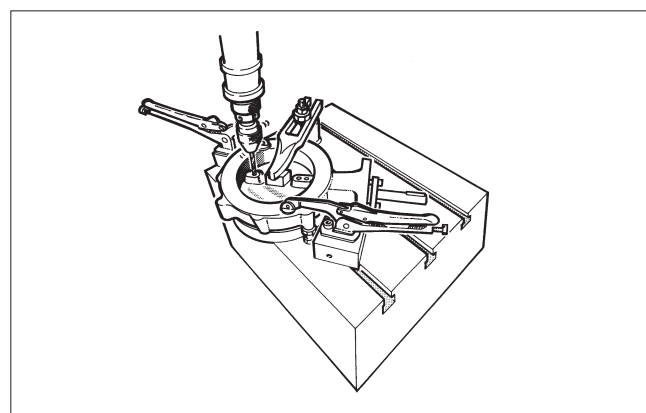

Fig. 14 Drilling the pins
- Remove the clamp ring (2) and seat ring (4) according to section 5.4.
- Set the valve horizontally on a sturdy surface so that the flat side of the disc lays against the surface, see Fig. 14.
- Drill the holes carefully to the centre of the pins (14). Choose a drill 0.2–0.5 mm smaller than the diameter of the pin.